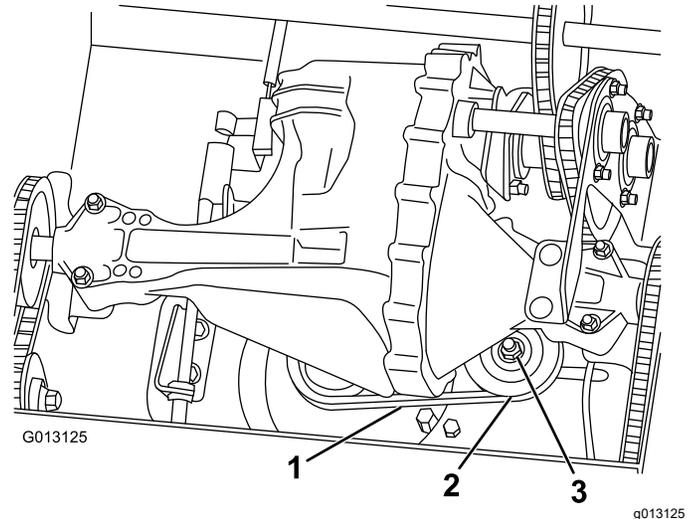

Figure 46
3. Push on the drive belt midway between the pulleys with 9 kg (20 lb) of force (Figure 46).
1. Loosen the nut that secures the idler pulley (Figure 46).